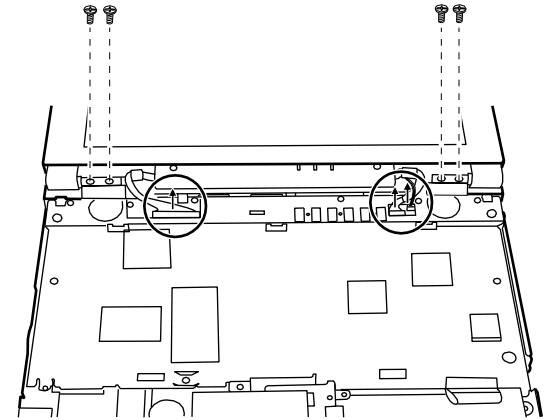

Figure 5-20. Unplugging the Cable Connectors and Removing Four Screws
6. Unplug the three cable connectors coming from the LCD assembly.(fig 5-20)
1. Attach the LCD assembly to base unit and secure with four screws on the hinges.(fig 5-20)
2. Reconnect the LCD cable connectors to the system board.(fig 5-20)
7. Attach the LCD assembly to the base unit and secure with four screws.(fig 5-20)